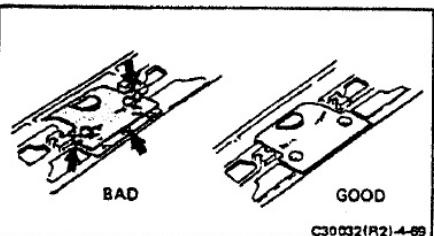

FIGURE 4-69 FRESNEL LIGHT STOP POSITION
- (b) The stock light stops have adhesive already applied. Peel off the backing paper and press the light stop into position on the carrier. Avoid wrinkles or creases. The location of the light stop is critical; if not precisely positioned, the camera might have a failure similar to an intermittent S3 mode function. Replace the light stop in the correct location (see Figure 4-69).